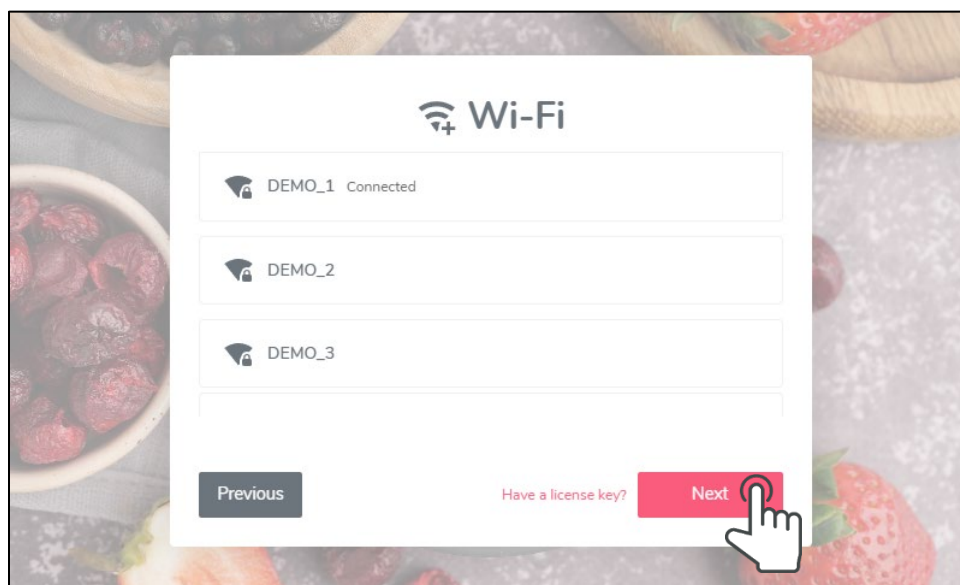

Figure 8
3. Once connected to Wi-Fi, the status will display 'Connected' next to the Wi-Fi name, allowing the setup to proceed to the next step (Figure 8).